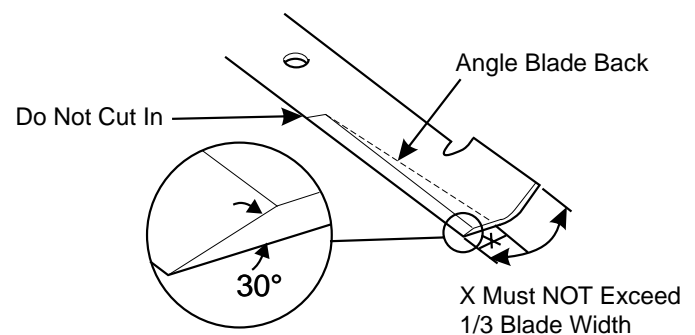

Figure 7-12 Blade Sharpening
1. Sharpen the cutting edge at same bevel as original. See Figure 7-12. Sharpen only the top of the cutting edge to maintain sharpness.